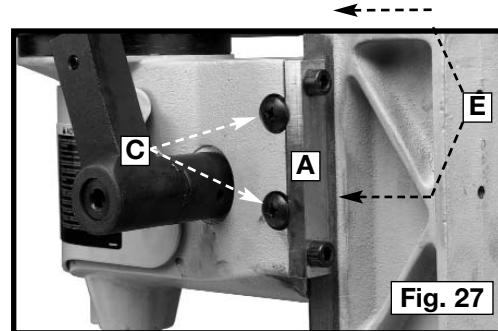

Fig. 27
A dovetail gib (A) Fig. 27 ensures a good sliding fit between the head and the column when the head is raised and lowered. Make the adjustment by loosening the two screws (B) and turning the adjusting screws (C). Tighten the two screws (B).